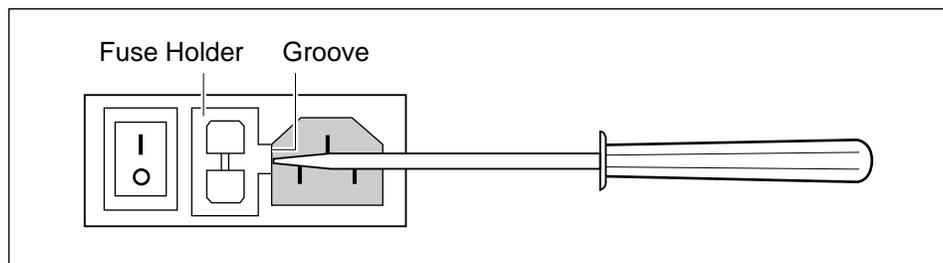

Figure 9-1. Opening the fuse box.
4. Place the end of a screwdriver into the groove and pry out the fuse holder (figure 9-1). When the fuse holder moves outward, grasp the holder and pull it all the way out.